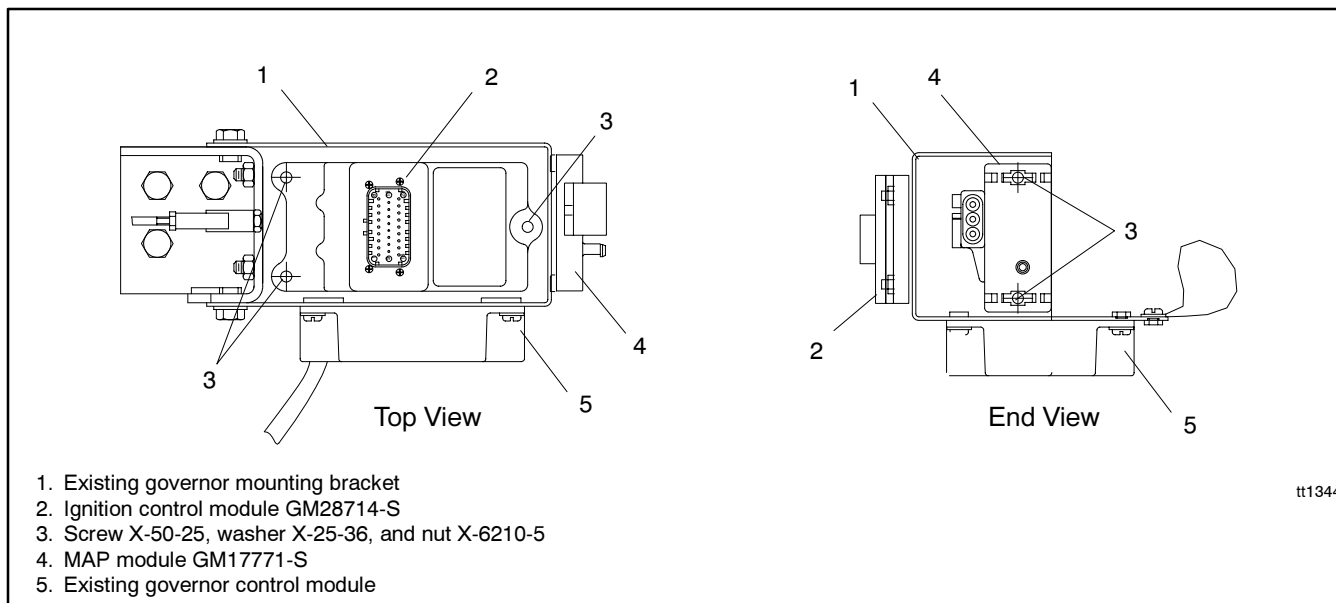

Figure 6 Ignition Control Module and MAP Sensor Installation on Marine 15/20 kW Generator Sets
4. Use the ignition control module (GM28714-S) as a template to mark three holes in the top of the existing governor controller mounting bracket. See Figure 6.
6. Use the manifold air pressure (MAP) module (GM17771-S) as a template to mark the locations of two holes on the lower back side of the existing governor controller mounting bracket. See Figure 6.
8. Use three screws (X-50-25), washers (X-25-36) and nuts (X-6210-5) to mount the ignition control module (GM28714-S) in the orientation shown in Figure 6.
9. Use two screws (X-50-25), washers (X-25-36) and nuts (X-6210-5) to mount the MAP module (GM17771-S) in the orientation shown in Figure 6.